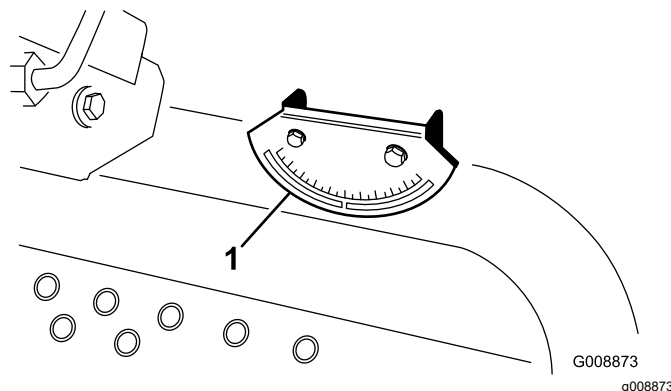

Figure 5
2. Verify that the machine is level by placing a hand held inclinometer (supplied with the machine) on the frame cross rail, by the fuel tank (Figure 5).